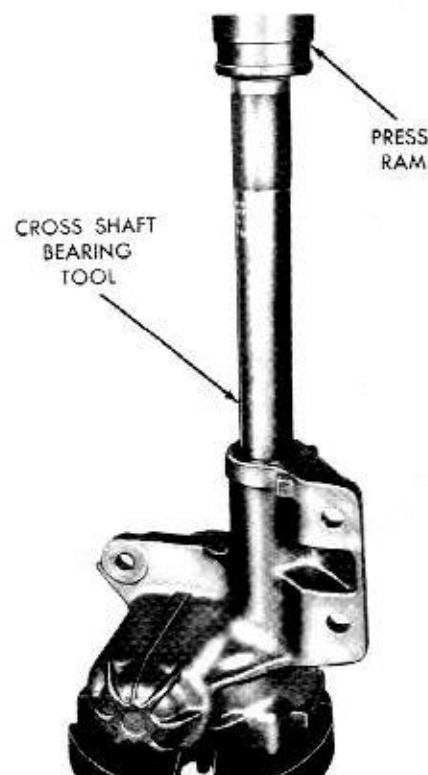

Fig. 7—Removing Cross Shaft Inner and Outer Bearings
(10) Remove cross shaft needle bearing by placing steering gear housing in an arbor press; insert Tool C-3786 in lower end of housing (Fig. 7) and press both bearings through housing. The cross shaft cover as-